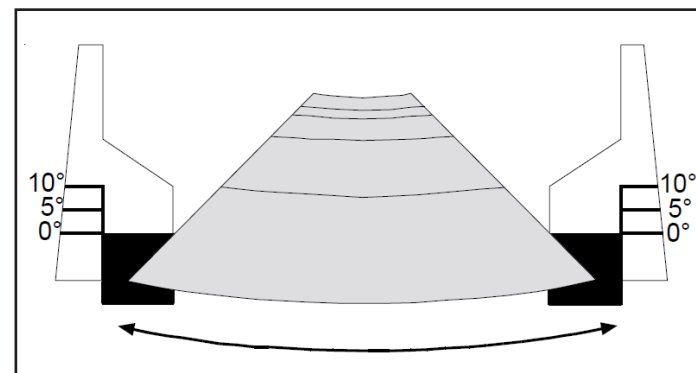

Figure 2.5: Horizontal angle (pattern) adjustment (1 click = 1°)
- Depending on the dimensions of the hallway, mount the detector in the center. Adjust the horizontal angle  $\pm 10^\circ$  by rocking the mirror side to side (1 click = 1°). Refer to Figure 2.5 for horizontal angle adjustment.